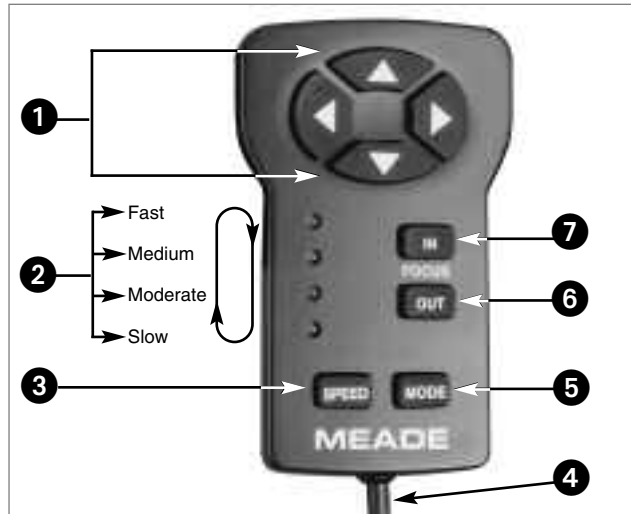

Fig. 49: Electronic Controller. (1) Arrow Keys; (2) Indicator Lights; (3) SPEED Key; (4) Coil Cord; (5) MODE Key; (6) OUT Key; (7) IN Key.
Some LXD75 models (designated with an "EC," for example, AR-5EC) come equipped with an Electronic Controller (EC) handbox, rather than the Autostar Handbox. The Electronic Controller provides you with the means to control the telescope motors from a compact handbox. The Electronic Controller (Fig. 49) has soft-touch keys designed to have a positive feel, even through gloves.
The following numbers refer to Fig. 49 above.
- 3 SPEED Key:** Press SPEED to change the speed at which the telescope slews to an object. Each press of the SPEED key changes the slew speed to the next slower setting. If the controller is already on the slowest slew speed (light 4), pressing SPEED cycles back to the highest speed (light 1). Slew speeds are signified by the indicator lights (2, Fig. 49).
4. Plug in the Electronic Controller coil cord (4, Fig. 49) to the HBX port (24A, Fig. 1) on the Computer Control panel.
- Use the four Arrow keys (1, Fig. 49) to slew the telescope to the desired object. To change the slew speed, press SPEED.
For objects, like the Moon or a comet, that move at slightly different rates, the Electronic Controller Arrow keys (1, Fig. 49) are sufficient to move the telescope slightly as the object very slowly moves off-center through the eyepiece field.
- Press and hold MODE (5, Fig. 49) until the Mode function is active (*i.e.*, lights 1 and 2 are on steady; lights 3 and 4 signify whatever tracking mode was last chosen).
- Press SPEED (3, Fig. 49) until lights 1, 2, and 3 are on steady with light 4 blinking. The telescope is now in the Northern Hemisphere polar mode.
- Press IN (7, Fig. 49) and light 4 comes on steady. The tracking rate is now 0.5% *faster* than sidereal. If the object you're tracking is moving faster than the sidereal rate, look through the eyepiece and press IN. Each time you press IN, the tracking rate increases by 0.5%. **Note that when the Mode function is active, the tracking motor stops. To restart the tracking motor, press MODE again.** Experiment with this function to get the right speed: Press IN to set the tracking rate. Then press MODE and look through the eyepiece. Continue pressing IN and MODE until the object remains centered with little or no drifting in the eyepiece.
- To use a rate slower than sidereal, press OUT (6, Fig. 49) until light 4 blinks again (sidereal rate). Press OUT again and light 4 goes out, signifying a tracking rate 0.5% *slower* than sidereal. **Note that when the Mode function is active, the tracking motor stops. To restart the tracking motor, press MODE again.** Experiment with this function to get the right speed: Press OUT to set the tracking rate. Then press MODE and look through the eyepiece. Continue pressing OUT and MODE until the object remains centered with little or no drifting in the eyepiece.
- Press and hold MODE (5, Fig. 49) until the Mode function is active (*i.e.*, lights 1 and 2 are on steady; lights 3 and 4 signify the tracking mode last chosen).
- Press SPEED (3, Fig. 49) until lights 1 and 2 are on steady, light 3 is off, and Light 4 is blinking.
- Press IN (7, Fig. 49) and light 4 comes on steady. The tracking rate is now 0.5% *faster* than sidereal. **Note that when the Mode function is active, the tracking motor stops. To restart the tracking motor, press MODE again.** Experiment with this function to get the right speed: Press IN to set the tracking rate. Then press MODE and look through the eyepiece. Continue pressing IN and MODE until the object remains centered with little or no drifting in the eyepiece.
- To use a rate slower than sidereal, press OUT (6, Fig. 49) until light 4 blinks again (sidereal rate). Press OUT key and light 4 goes out, signifying a tracking rate 0.5% slower than sidereal. **Note that when the Mode function is active, the tracking motor stops. To restart the tracking motor, press MODE again.** Experiment with this function to get the right speed: Press OUT to set the tracking rate. Then press MODE and look through the eyepiece. Continue pressing OUT and MODE until the object remains centered with little or no drifting in the eyepiece.